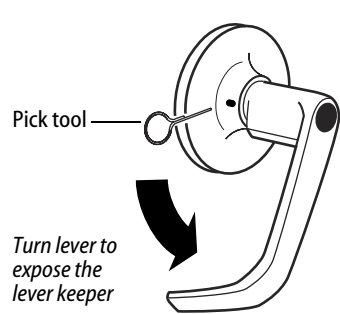

Figure 9 Removing the outside non-IC lever
- 1 Remove the outside lever. Do this by turning the lever down, depressing the exposed lever keeper with the pick tool and then pulling the lever off. See Figure 9.